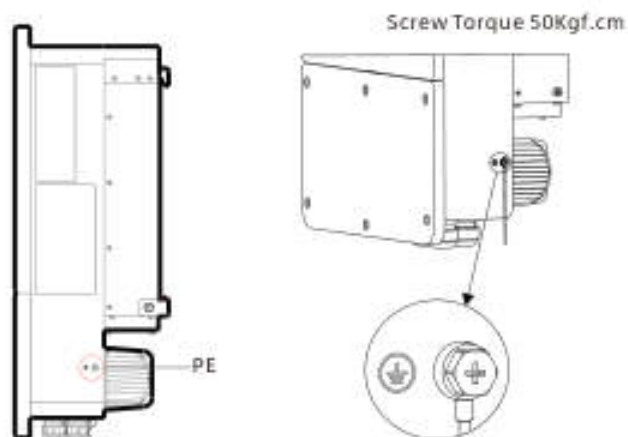

Fig 6.6 Protective earthing position
- 4) The position of the ground points of the WIT 4-15K-HU Hybrid Inverter is shown in Fig 6.6.